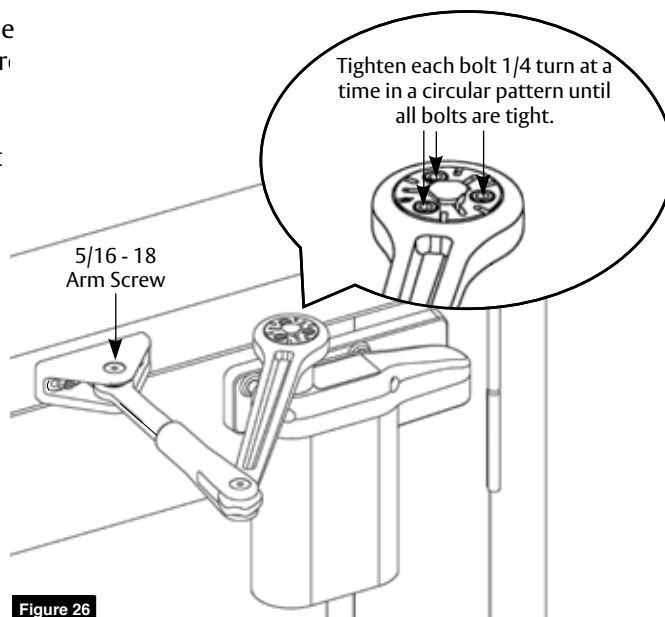

Figure 26
3. With arm coupling bolts facing up and end link hole aligned with arm pivot bracket hole, place larger end of arm onto pinion shaft. (Figure 26)
4. While maintaining arm position, tighten coupling bolts evenly (one quarter turn at a time in a circular pattern) until **fully tight** using 3/16" hex wrench. (Figure 26)
5. Push arm into arm pivot bracket to provide tension. Secure with 5/16 - 18 flat head scr (Figure 26)